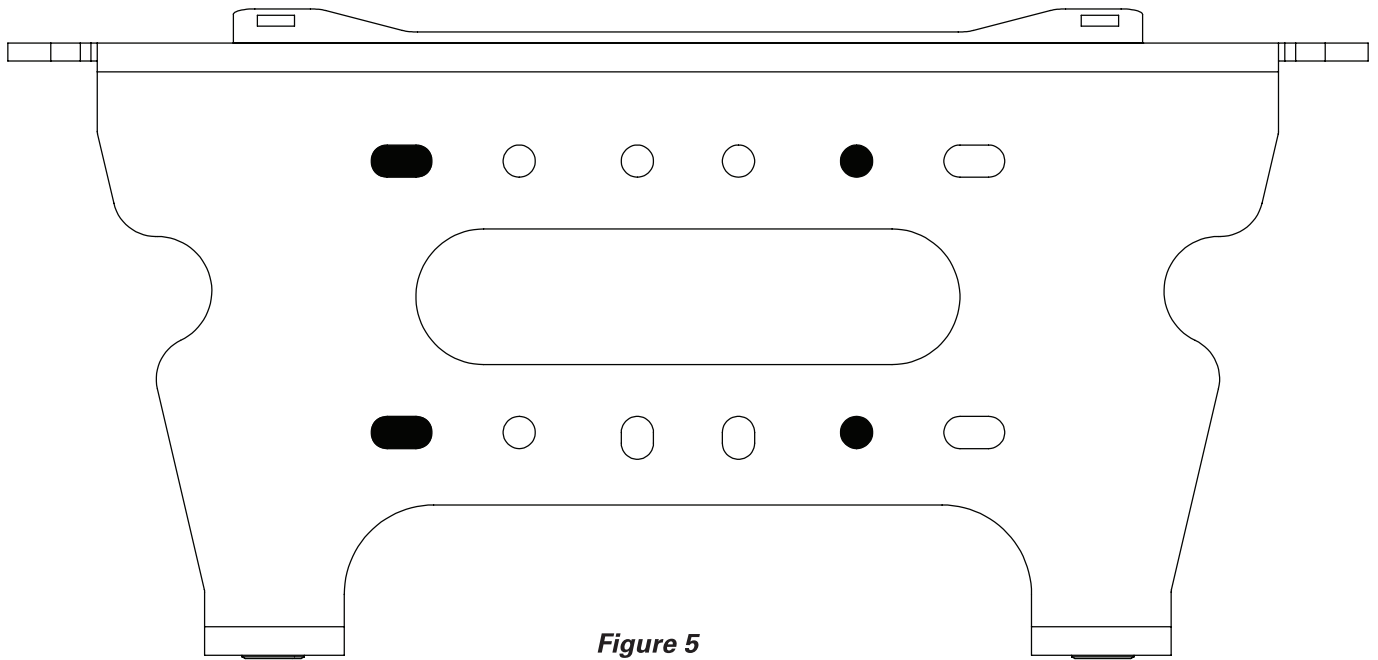

Figure 5
- Standard Bolt Pattern (3.00" x 4.875") (Fig. 5)